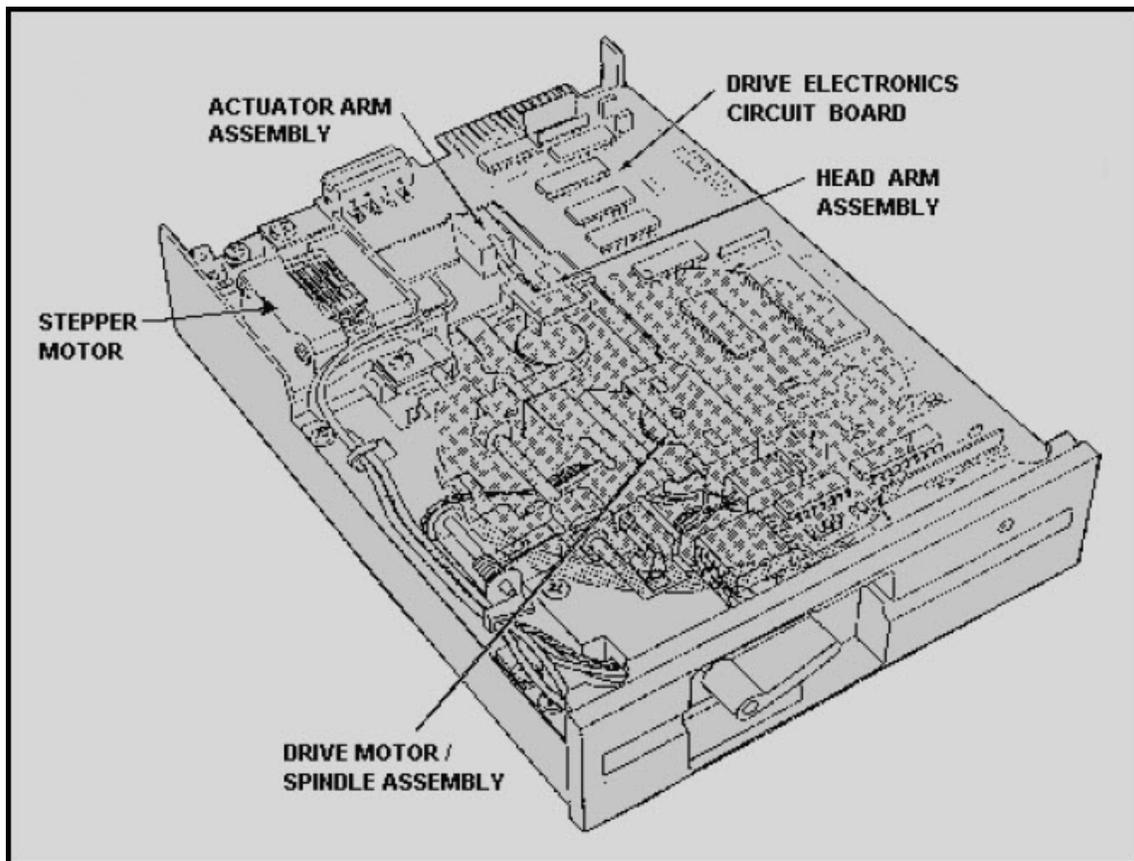

Figure 8-9 Typical floppy disk drive transport
Floppy disk drive transports contain the electromechanical parts that (1) rotate the floppy disk, (2) write data to it, and (3) read data from it. Figure 8-9 shows a typical floppy disk drive transport. Four of the drive transport's more important parts are the